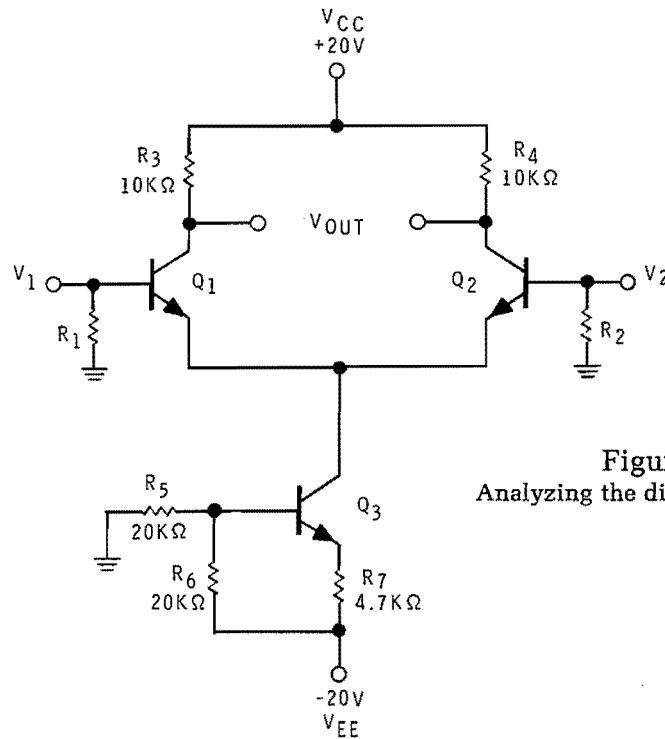

Figure 3-16
9. (common-mode rejection) Figure 3-16 shows a differential amplifier.  $Q_3$ ,  $R_5$ ,  $R_6$ , and  $R_7$  form a \_\_\_\_\_ source.